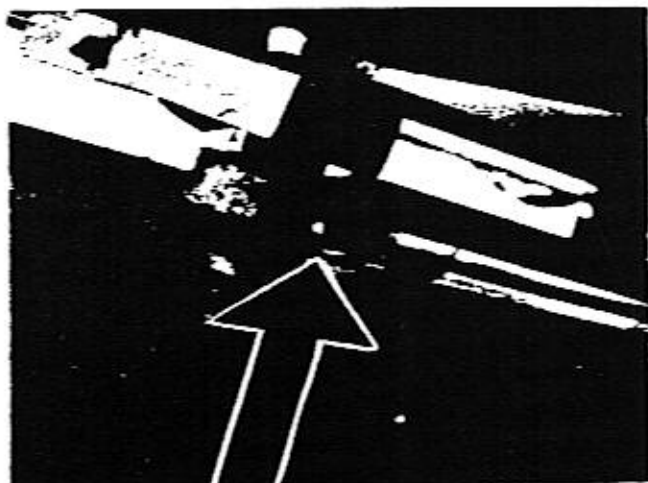

Figure 9-1
Located in the front of machine beneath the conveyor is the cylinder that controls the swing of the conveyor. Lubricate each fitting with two (2) shots of MPG-EP grease. There is a fitting at the rod end of the cylinder and a fitting at the base end. See Figure 9-1.